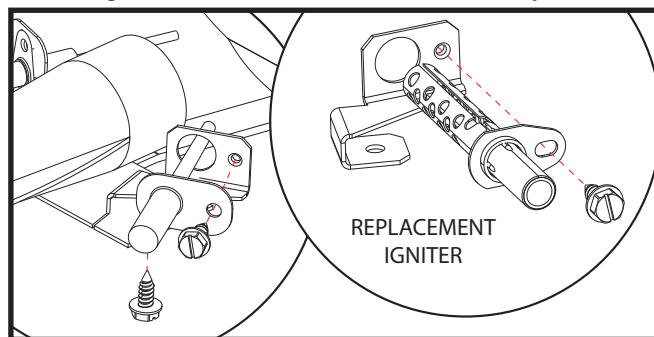

Figure 2. Igniter Removal and Installation
5. Take the screw off and remove the bracket (Figure 2), you will need the bracket and screw to install the new igniter.